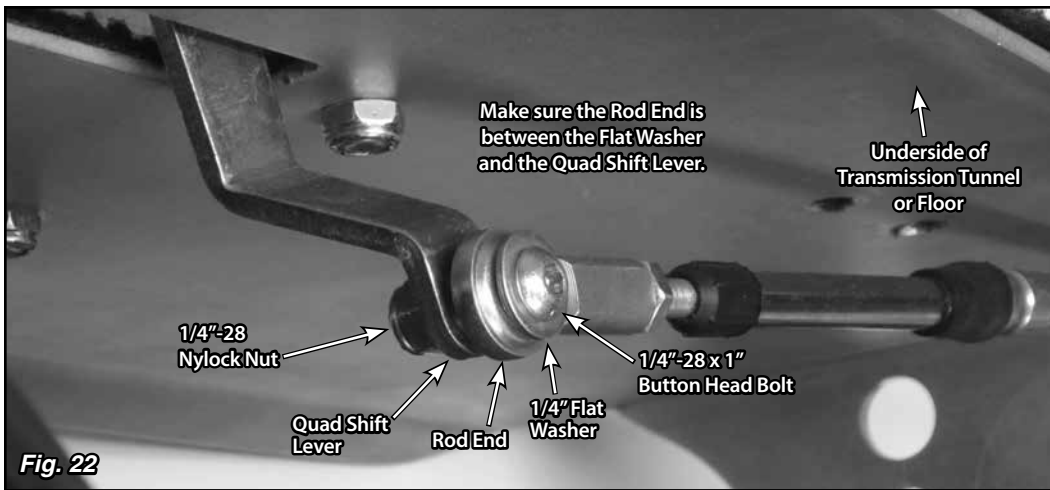

Fig. 22
**Step 8:** Route the cable up to the Shifter and attach the other rod end to the quad shift lever using the existing 1/4"-28 x 1" button head bolt, flat washer, and nylock nut. **Fig. 22** The button head bolt can be installed from either direction, but make sure the rod end is sandwiched between the quad shift lever and the flat washer. When routing the cable, make sure it is not touching the exhaust or any moving parts. The cable should be routed as smoothly as possible without any sharp bends.